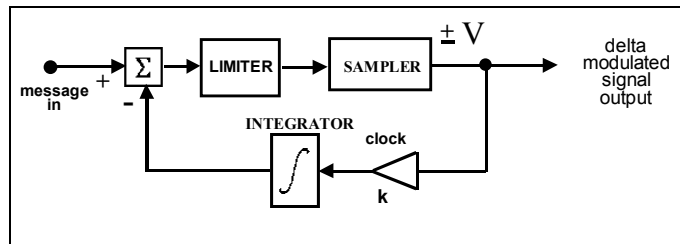
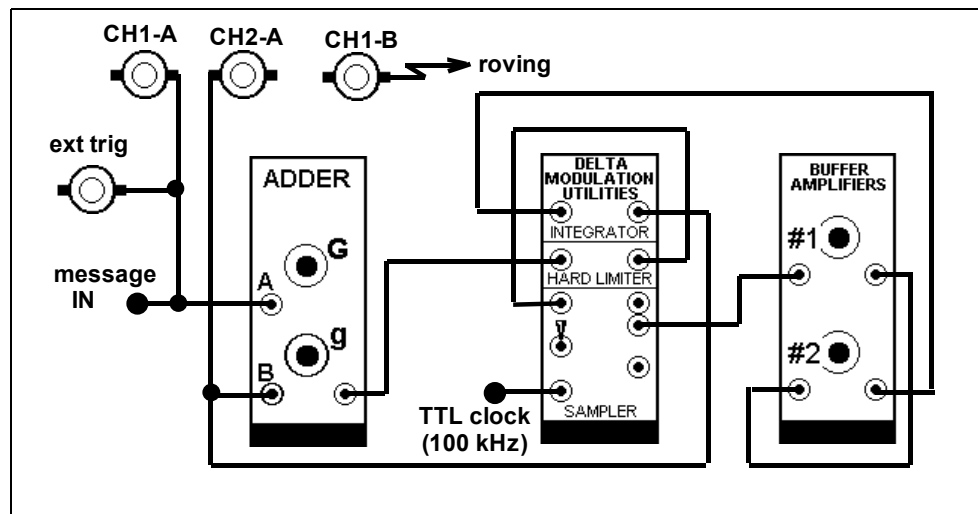

Figure 1: basic delta modulator
Figure 6: the delta modulator; a model of Figure 1
Figure 1 illustrates the basic system in block diagram form, and this will be the modulator you will be modelling.
When analysing the block diagram of Figure 1 it is convenient to think of the summer having unity gain between both inputs and the output. The message comes in at a fixed amplitude. The signal from the integrator, which is a sawtooth approximation to the message, is adjusted with the amplifier to match it as closely
as possible. You will be able to see this when you make a model of the system of Figure 1.
In the delta modulator of Figure 1 the output of the integrator is a sawtooth-like approximation to the input message. The teeth of the saw must be able to rise (or fall) fast enough to follow the message. Thus the integrator time constant is an important parameter.
where k is the gain of the amplifier preceding the integrator (as in Figure 1).
The block diagram of Figure 1 is modelled with a DELTA MODULATION UTILITIES module, an ADDER, and both of the BUFFER AMPLIFIERS.
T5 patch up a model of Figure 1. This is shown in Figure 6. Use the 100 kHz TTL signal from the MASTER SIGNALS module as the clock for the SAMPLER, and the 2 kHz MESSAGE for the sinusoidal message to be sampled. The message (2.083 kHz) is a sub-multiple of the 100 kHz sample clock. This helps to obtain text-book like oscilloscope displays.
You will now set up the modulator for 'acceptable performance'. This means that the INTEGRATOR output should be a reasonable approximation to the message at the input to the SUMMER (of Figure 1).
1. **the step size:** this can be varied in fixed steps with the INTEGRATOR time constant, or fine steps with the gain k of the amplifier (two cascaded BUFFER amplifiers) in the feedback loop (Figure 1).
Remember the ADDER is modelling the SUMMER (of Figure 1). The two inputs are the message and its approximation. These two should be of the same general shape and the same amplitude. Since it is their difference which is being sought they will need to be of opposite polarity, as has been arranged (remember, the gains g and G of the ADDER, acting as a SUMMER, have both been set to unity).